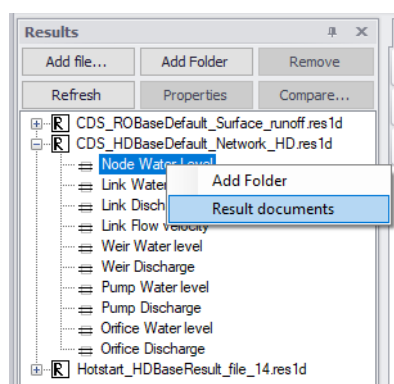

Figure 20.7 Create result documents from the Results panel via the local context menu (i.e. right-click)
- Right-click on a result file layer or result item on the Results panel (Figure 20.7).